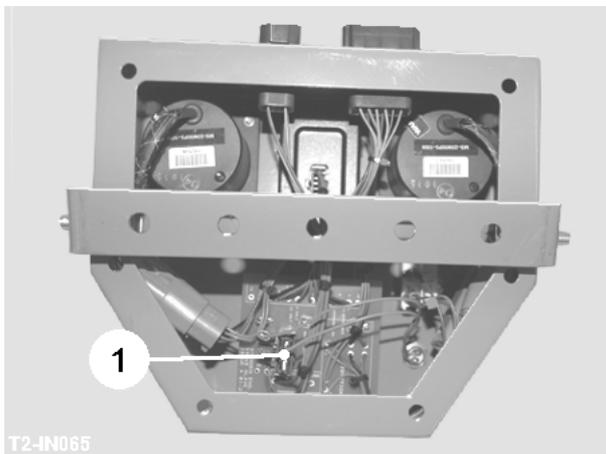

Fig 31
The feed to the slave box and service terminal is protected by the 2Amp fuse (item 1, fig 31) inside the slave box.